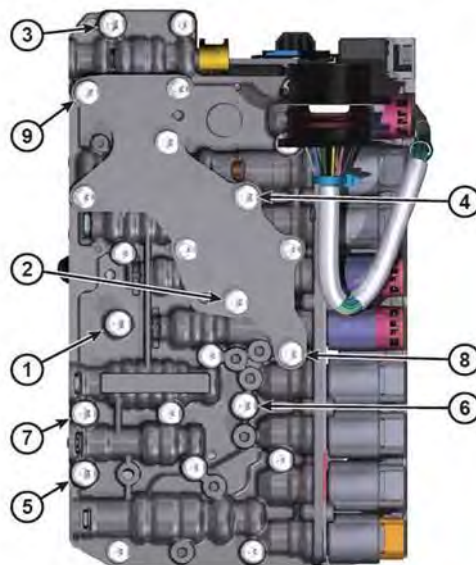

Fig. 26 Valve Body Retaining Bolt Torque Sequence
64. Install the valve body retaining bolts and torque, in sequence, to 11Nm (8 ft. lbs.). See (Fig. 26).